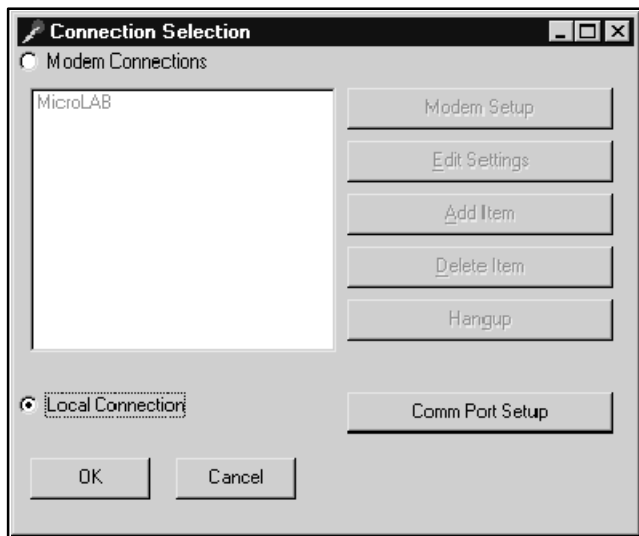

Figure 2-5 Connection Selection Window
3. Click the Local Connection button in the Connection Selection window. See Figure 2-5.